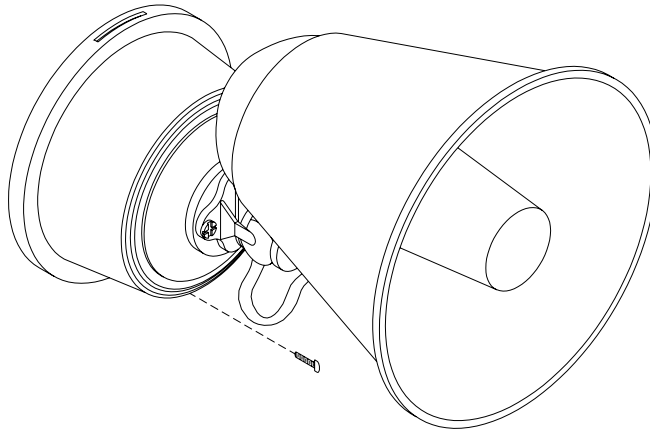

Figure 11 Horn Signal Mounting Plate Screw
11. Remove the horn signal mounting plate from the horn base by loosening the Phillips head screw on the base as seen in figure 11.